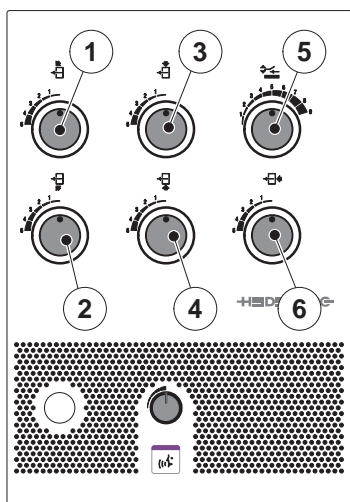

Fig. 43 Feeder air control control panel
The blast air volume for the lateral sheet separation blowers can be adjusted via the feeder control panel (Fig. 43).
1. Use the controllers (Fig. 43/1 ... 6) to adjust the blast air volume to the currently used printing material.